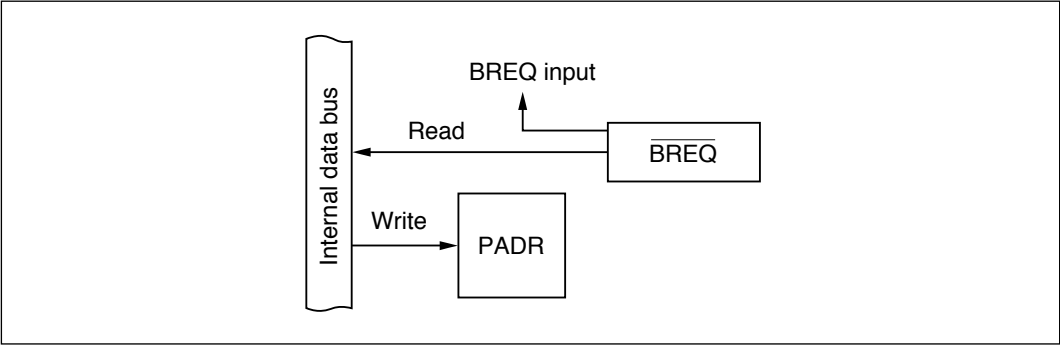

Figure 9-63 BREQ Input Pin (Modes 1 to 6)
(3) **BREQ Pin (PA₅; Modes 1 to 6):** Figure 9-63 shows a block diagram illustrating the BREQ function. Table 9-46 indicates register read/write data. When PA₅ is used for BREQ input, the value written in the port A data register (PADR) has no effect. When read, PADR returns the level of the BREQ signal.